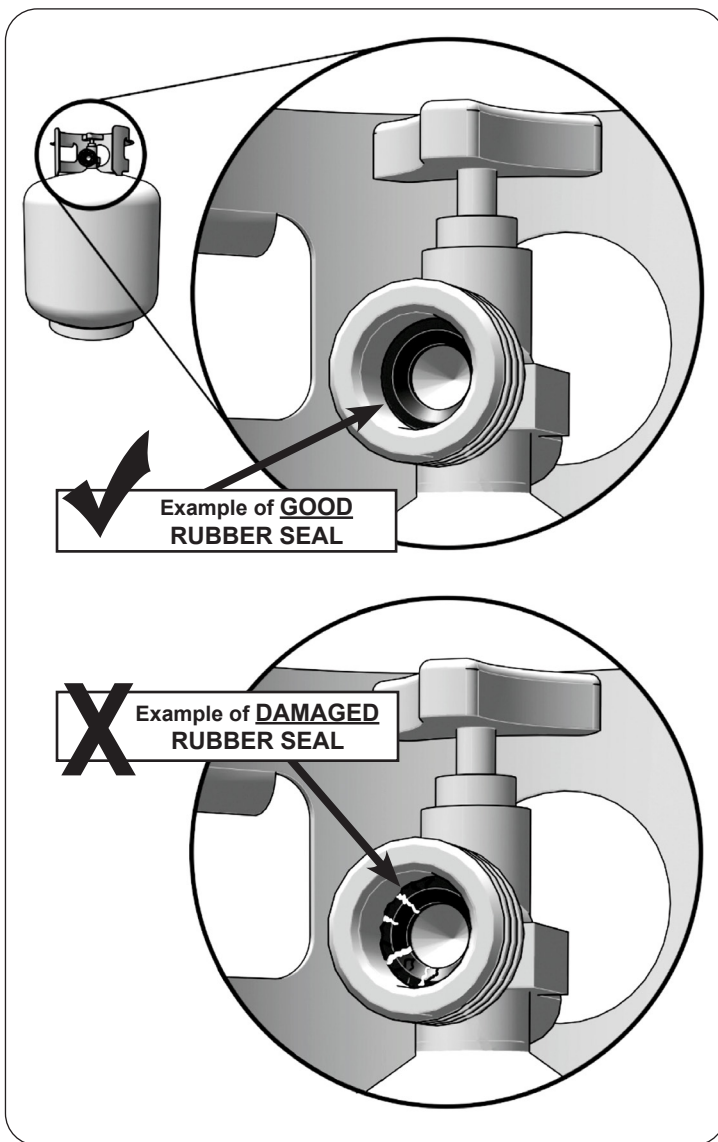

Fig. 11-1 Inspect rubber seal
- D. **CGA 791 connections on LP gas cylinders:** The cylinder face elastomeric face seal element on these devices could, over time, show marked and visible damage or deterioration that might cause a leak even with the connection tightened. A visual inspection for the seal must be carried out every time a LP gas cylinder is replaced or refilled. Any LP gas cylinder showing signs of damage or deterioration as illustrated in Fig. 11-1, including visible cracks and pitting, must be replaced.